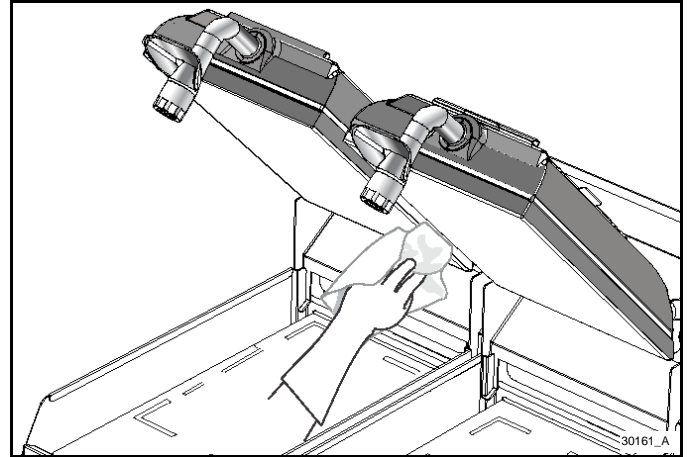

Figure-163
34. Rinse the upper platens and lower plates with a clean, sanitizer-soaked grill cloth. Also rinse the surrounding areas, such as the hood, bull nose, and rear grease guard. See Figure-163.